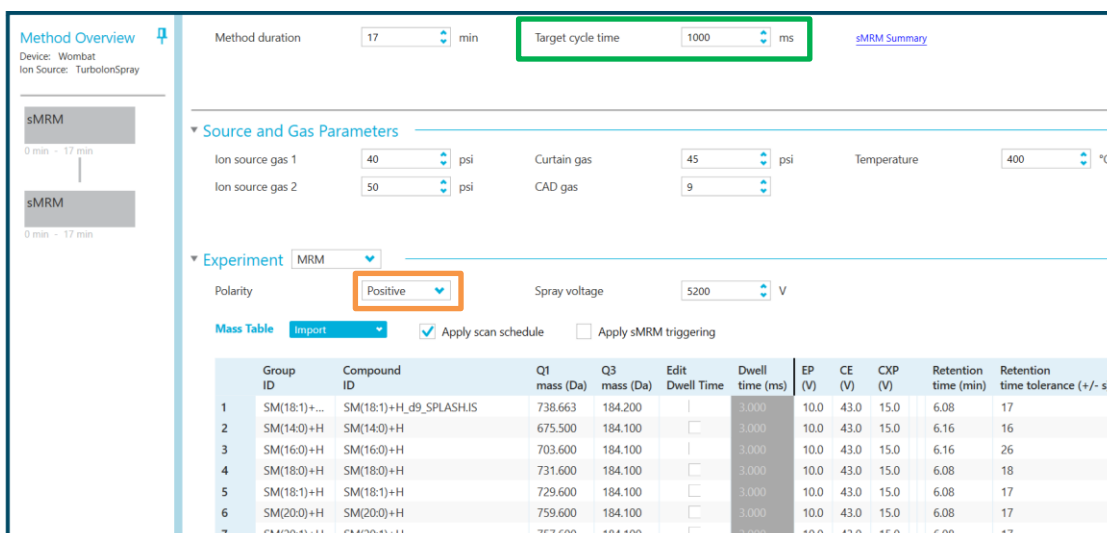

Figure 5-2: Defining the Positive Polarity Information for Experiment 1.
4. Select positive polarity for the first experiment as indicated in the orange box in **Figure 5-2**.
6. Adjust the Target Cycle time to 1000 msec as show in **Figure 5.2** indicated by the green box.
4. Adjust the Target Cycle time to 1000 msec as show in **Figure 5.2** indicated by the green box.